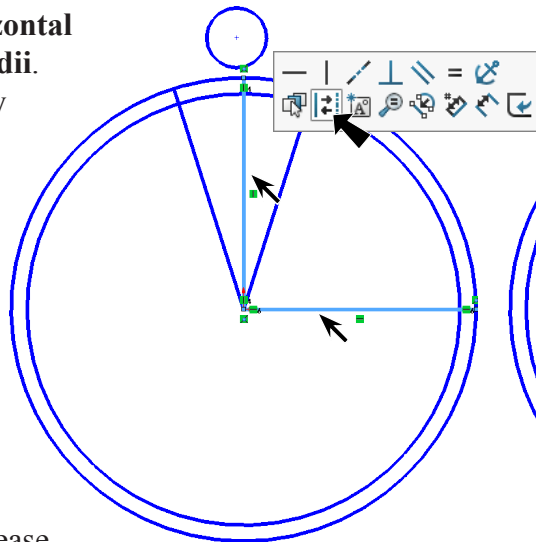

Fig. 4
Step 7. **Ctrl click horizontal and vertical radii**. Release Ctrl key and click **Construction Geometry** on the context toolbar, **Fig. 4**.